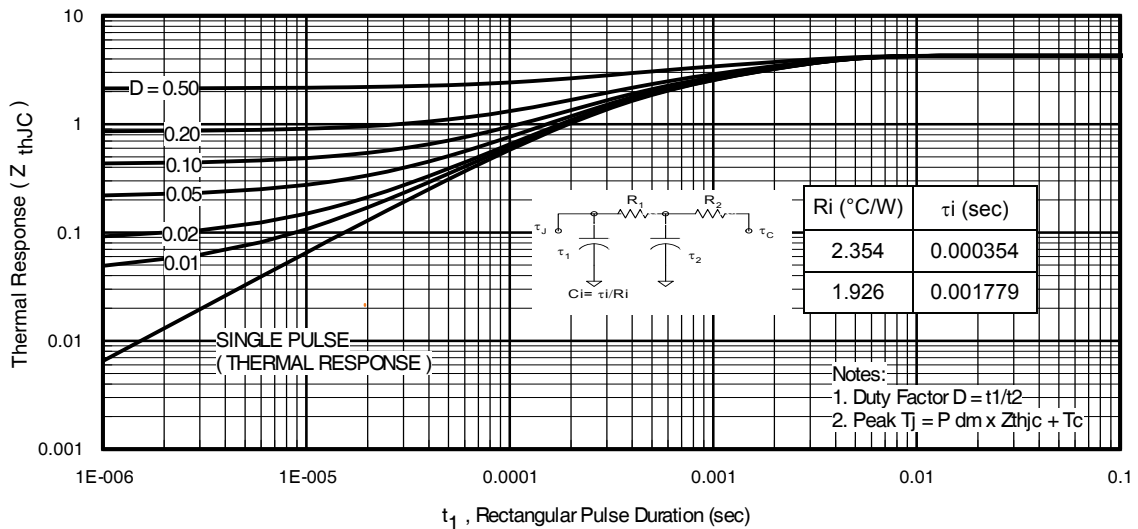

Fig 11. Maximum Effective Transient Thermal Impedance, Junction-to-Case
- ① Repetitive rating; pulse width limited by max. junction temperature. (See fig. 11)
- ② Limited by T_{Jmax} , starting $T_J = 25^\circ\text{C}$, $L = 0.54\text{mH}$, $R_G = 25\Omega$, $I_{AS} = 9.6A$, $V_{GS} = 10V$. Part not recommended for use above this value.
- ③ Pulse width $\leq 1.0\text{ms}$; duty cycle $\leq 2\%$.
- ④ $C_{oss\text{ eff.}}$ is a fixed capacitance that gives the same charging time as C_{oss} while V_{DS} is rising from 0 to 80% V_{DSS}